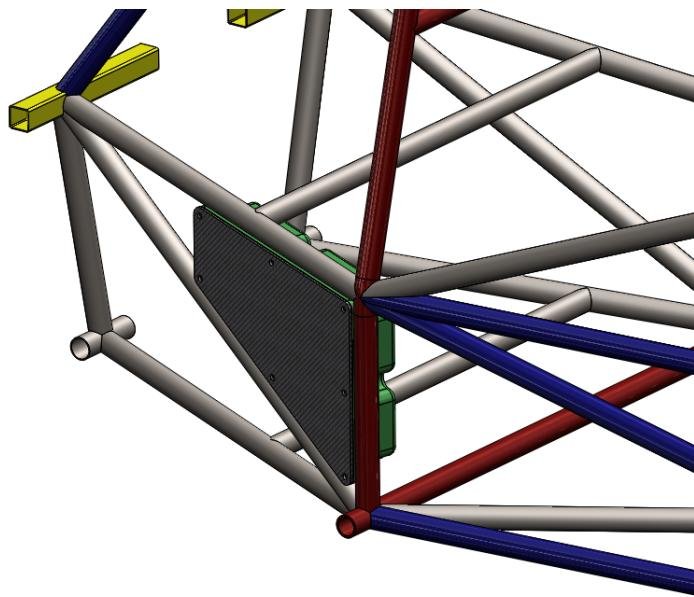
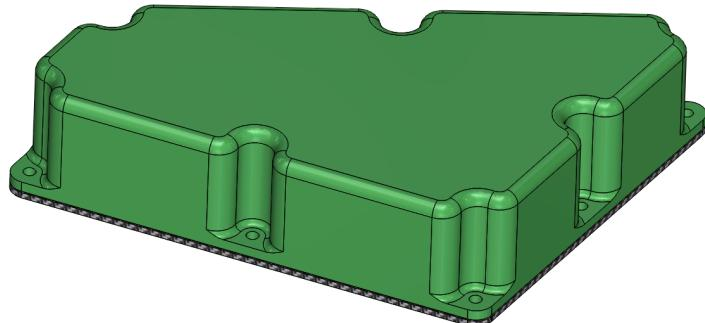

Figure 3: Shutdown Circuit Enclosure Vehicle Location
Figure 4: Waterproof Enclosure for TS MS, GLV MS, TSMP, GLVMP, & Shutdown Circuit
With the exception of the emergency shutdown buttons and tractive system interlocks, the components comprising the shutdown circuit are housed within a waterproof enclosure, located at the rear of the chassis, behind the main hoop, on the driver's right as shown in Figure 3. This enclosure consists of a carbon fiber panel, where accessible switches, buttons, and measuring points will be mounted, and a 3D printed rear housing with integrated 18-pin Deutsch DT panel mount connector as shown in Figure 4. Actual components are not shown due to lack of CAD files at this point in time. Tractive system interlocks are located at each individual high voltage connection including the main two-way accumulator bus, HVD, & three MSD's (manual service disconnects/maintenance plugs). The emergency shutdown buttons are located on the driver's dashboard (1) and on the right (2) & left (3) sides of the car at driver's head level, attached to the main hoop with welded steel brackets.
As part of the shutdown circuit, the IMD will be located inside the enclosure shown in Figure 4. This is a convenient location for the IMD as high voltage sensing lines must already be present here for the TSMP's.
The inertia switch will also be located in the enclosure shown in Figure 4 to keep wire paths short and provide an easy access point to reset the switch if triggered.
The IMD and BMS reset buttons will be panel mounted to the enclosure shown in Figure 4. The AMS will be within the accumulator container.